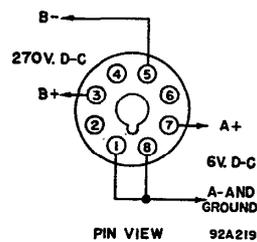

Fig. 2-1. Radio Receiver Model S-37, wiring diagram for d-c power plug.
(1) Remove the octal "jumper plug" for a-c operation from socket SO-1 located on the rear apron of the receiver chassis.
(2) Wire up an octal plug as shown in Fig. 2-1. and plug it into socket SO-1. Use No. 18 (AWG) wire leads for the 270-volt "B" supply connections to pins #3 and #5 and No 12 (AWG) wire leads for the 6-volt "A" battery connections to pins #1, #8 and #7.